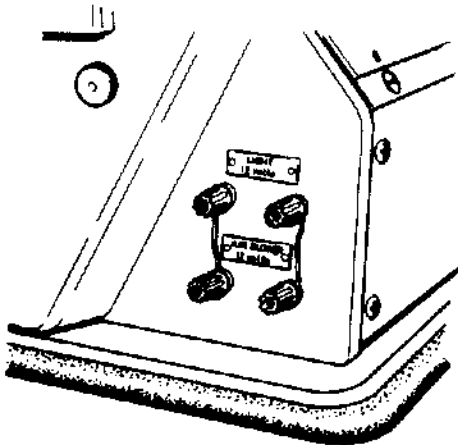

Fig. 1
1. Place smokemeter in a horizontal position, set switch (20) to OFF-position and control (15) to ZERO CHECK. The pointer should indicate 100 H.S.U. If not, correct by means of the adjusting screw (23).
2. Connect battery cables with terminals of light source (2) and blower (1), making sure the proper polarity is observed: + cables connected with red terminals. In case only one battery is used, the four terminals should be interconnected as shown in fig. 1.
3. Check battery voltage for the light source by switching on the smokemeter (switch (20) to ON and switch (18) to V-test). The pointer should move then to the black area of the scale.